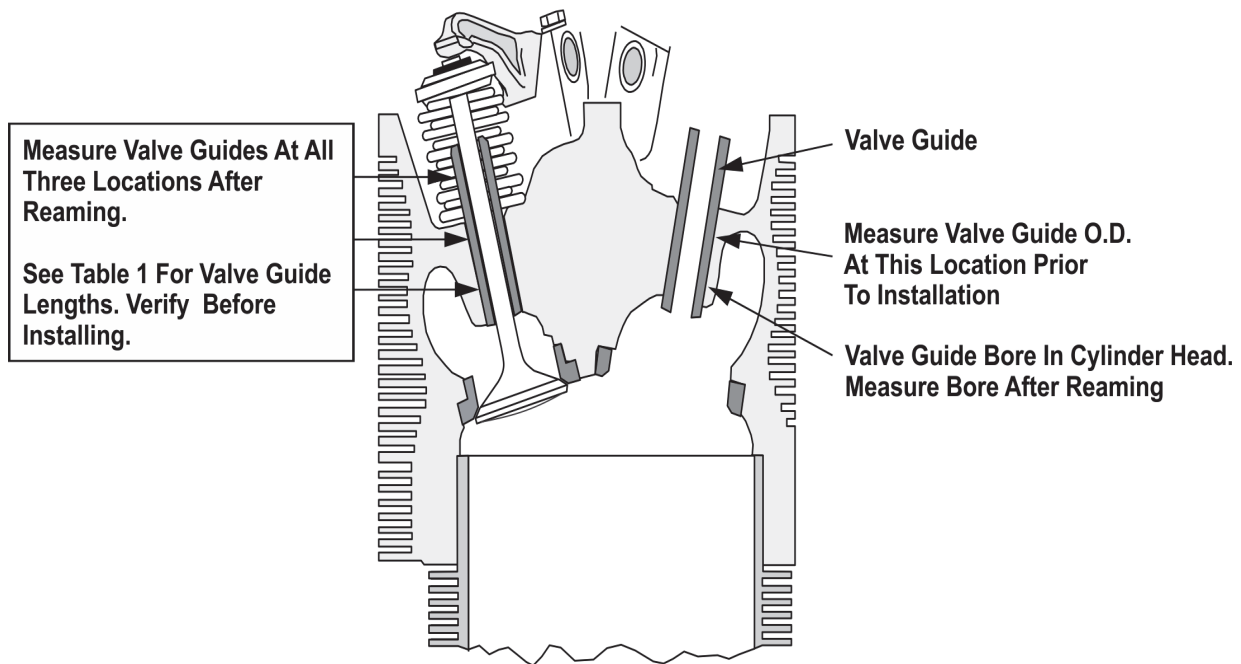

Figure 2. Critical Measurement Locations, Valve Guide Installation
3. Post installation measurements are required on Ream-In-Place valve guides after reaming procedures have been completed. Allow the cylinder to cool and stabilize to room temperature before taking any dimensional measurements. Measure the valve guide inside diameter at three equally spaced locations along the length of the valve guide (reference Figure 2). If the inside diameter is not within specifications, the guide will require refinishing or replacement.